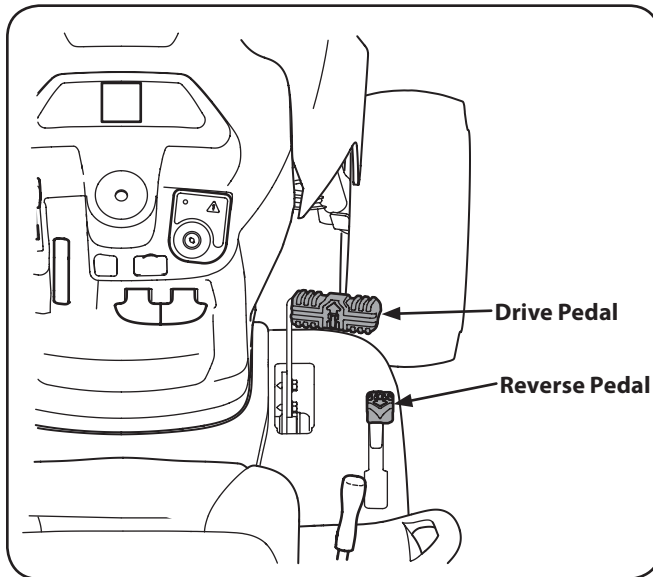

Figure 5-1
2. To travel FORWARD, slowly press the upper portion of the drive pedal forward until the desired speed is achieved. See Fig. 5-1.
3. To travel in REVERSE, check that the area behind is clear, then slowly depress the lower portion of the drive pedal with the ball of your foot (NOT your heel) until the desired speed is achieved. See Fig. 5-1.